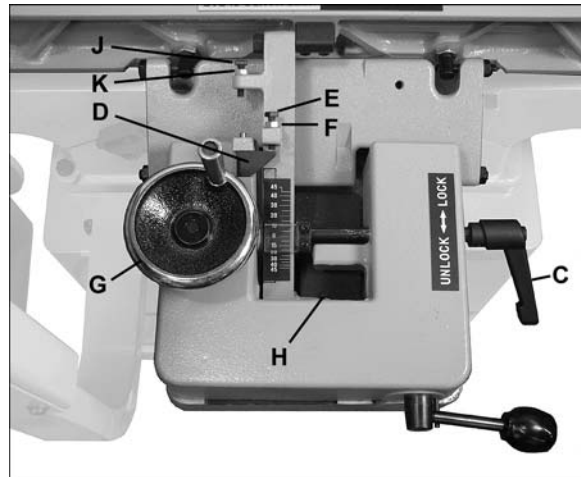

Figure 29
See Figure 29.
1. The 90-degree stop is controlled by the screw (E, Figure 29).
2. Loosen the locking handle (C) and the hex nut on the screw (F).
3. Set a square on the table and against the fence, and rotate the handwheel (G) to move the fence flush against the square. Rotate the screw (E) until it contacts the stop block (D).
4. Tighten the hex nut (F) and the locking handle (C).
1. The 45 degree forward stop is controlled by a screw (H, Figure 29) that is located at the bottom end of the link bar.
2. Loosen the locking handle (C) and the hex nut on the screw (H).
4. Rotate the screw (H) until it contacts the casting below it.
5. Tighten hex nut (H) and locking handle (C).
1. Flip the stop block (D, Figure 29) out of the way.
2. The 45 degree back stop is controlled by the screw (J).
3. Loosen the locking handle (C) and the hex nut on the screw (K).
5. Rotate the screw (J) to the proper height.
6. Tighten hex nut (K) and locking handle (C).